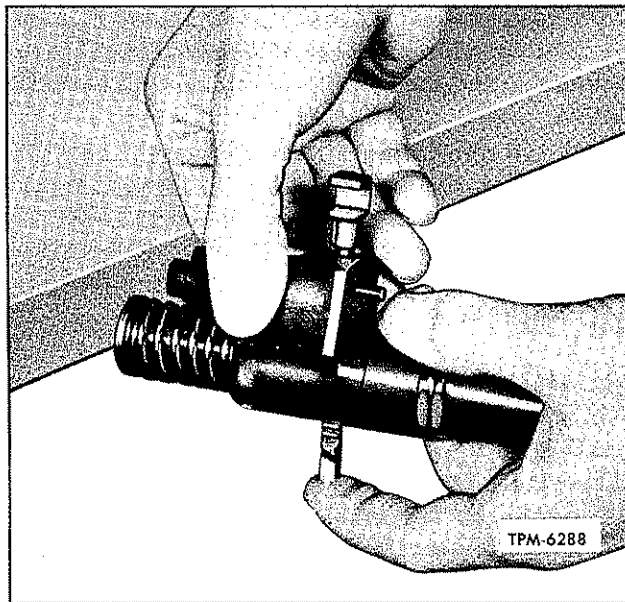

Figure 9—Checking Rack Freeness
1. Free movement of a plunger may be checked by placing the injector against a bench, as shown in figure 9, and depressing the follower to the bottom of its stroke while moving the rack back and forth. Failure to produce a free rack indicates that the internal parts of the injector are damaged or dirty. CAUTION: The injector must always be held in such a way as to prevent any fuel spray from penetrating the skin. Fuel oil which enters the blood stream may cause serious infection.